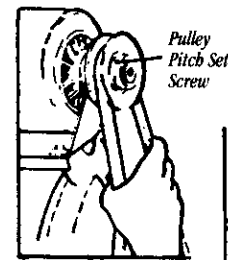

FIGURE 10
7. Tighten belt to the proper tension. When correctly tightened, the belt will deflect about 1/2 inch by hand (see Figure 10).
check motor amperage. To prevent overloading of motor, check amperage with all windows and doors open and all air relief systems operating. Note sheave pitch set screw (see Figure 10).